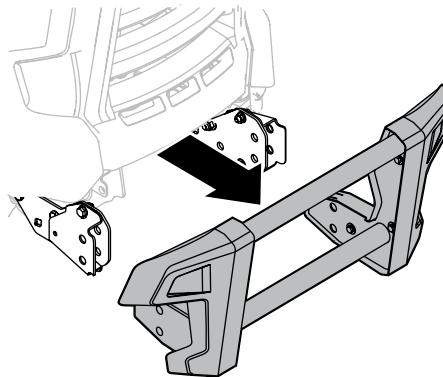

Figure 4-20
2. The brush guard assembly may now be removed. See Figure 4-20.